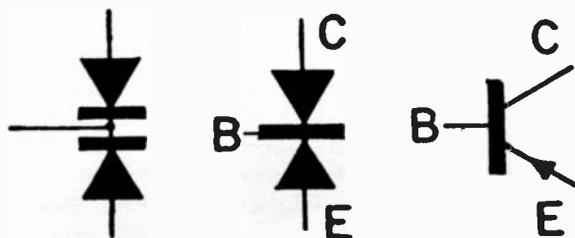

Figure 5—Two Diodes Compared to P-N-P Transistor
**Caution**—never use an ohmmeter which applies a voltage exceeding the transistor's ratings. On most 20,000 ohms/volt multimeters the RX100 range is generally suitable. Also, be careful not to change ranges when comparing forward and reverse resistance of a given junction—use the same RX100 range even if the needle deflection is at the high or low end of the scale. In figures 5 and 6 the manner in which a